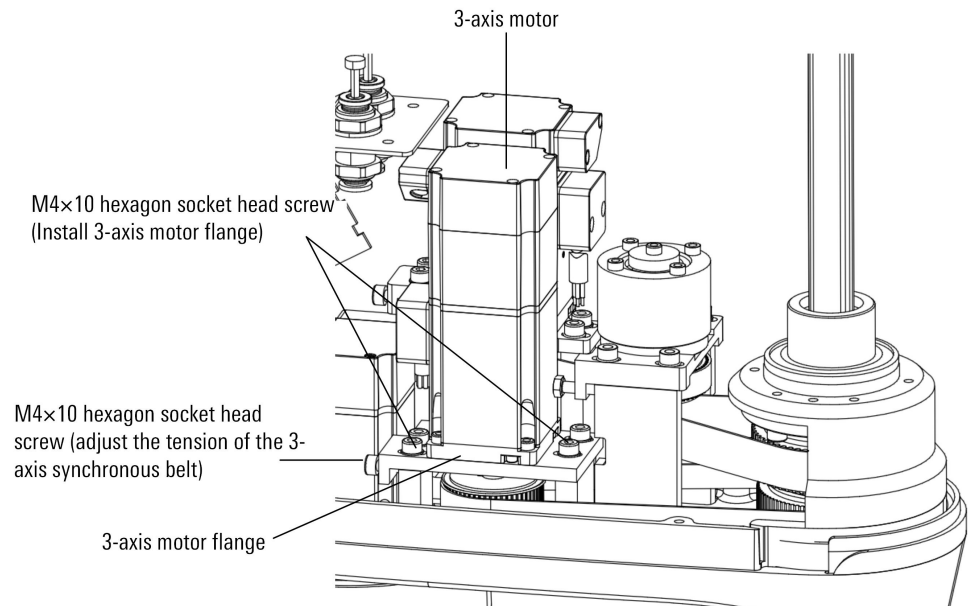

Figure 8- 7 Schematic diagram of disassembling 3-axis motor flange
- Step4. Use an Allen wrench to remove the four M4×10 inner hexagon socket head screws for installing the 4-axis motor flange, and then slowly loosen the a M4×10 inner hexagon socket head screw that adjusts the tension of the 4-axis first-stage timing belt. Take off the flanges of the 4-axis motor and 4-axis motor together, as shown in Figure 8- 8.